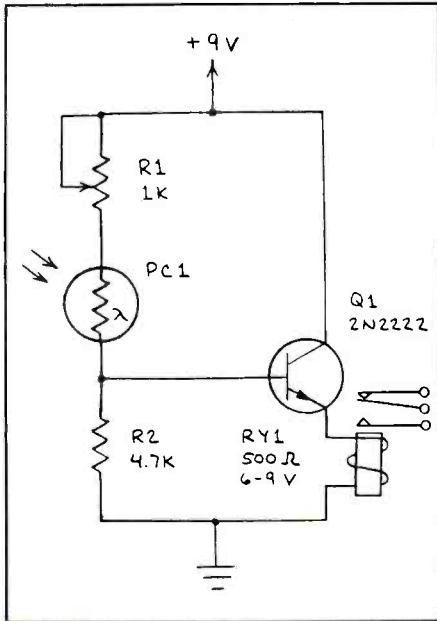

Fig. 10. A light-activated relay.
• **Light-Activated Relay.** Many kinds of light-activated relays can be made using photoresistors. Some relays can be driven by nothing more than a photoresistor and a power supply. However, a gain stage provides greater sensitivity. For example, Fig. 10 shows a straightforward light-activated relay that uses a single transistor to increase sensitivity. Relay *RY1* is a Radio Shack Cat. No. 275-004 device. Potentiometer *R1* controls sensitivity.